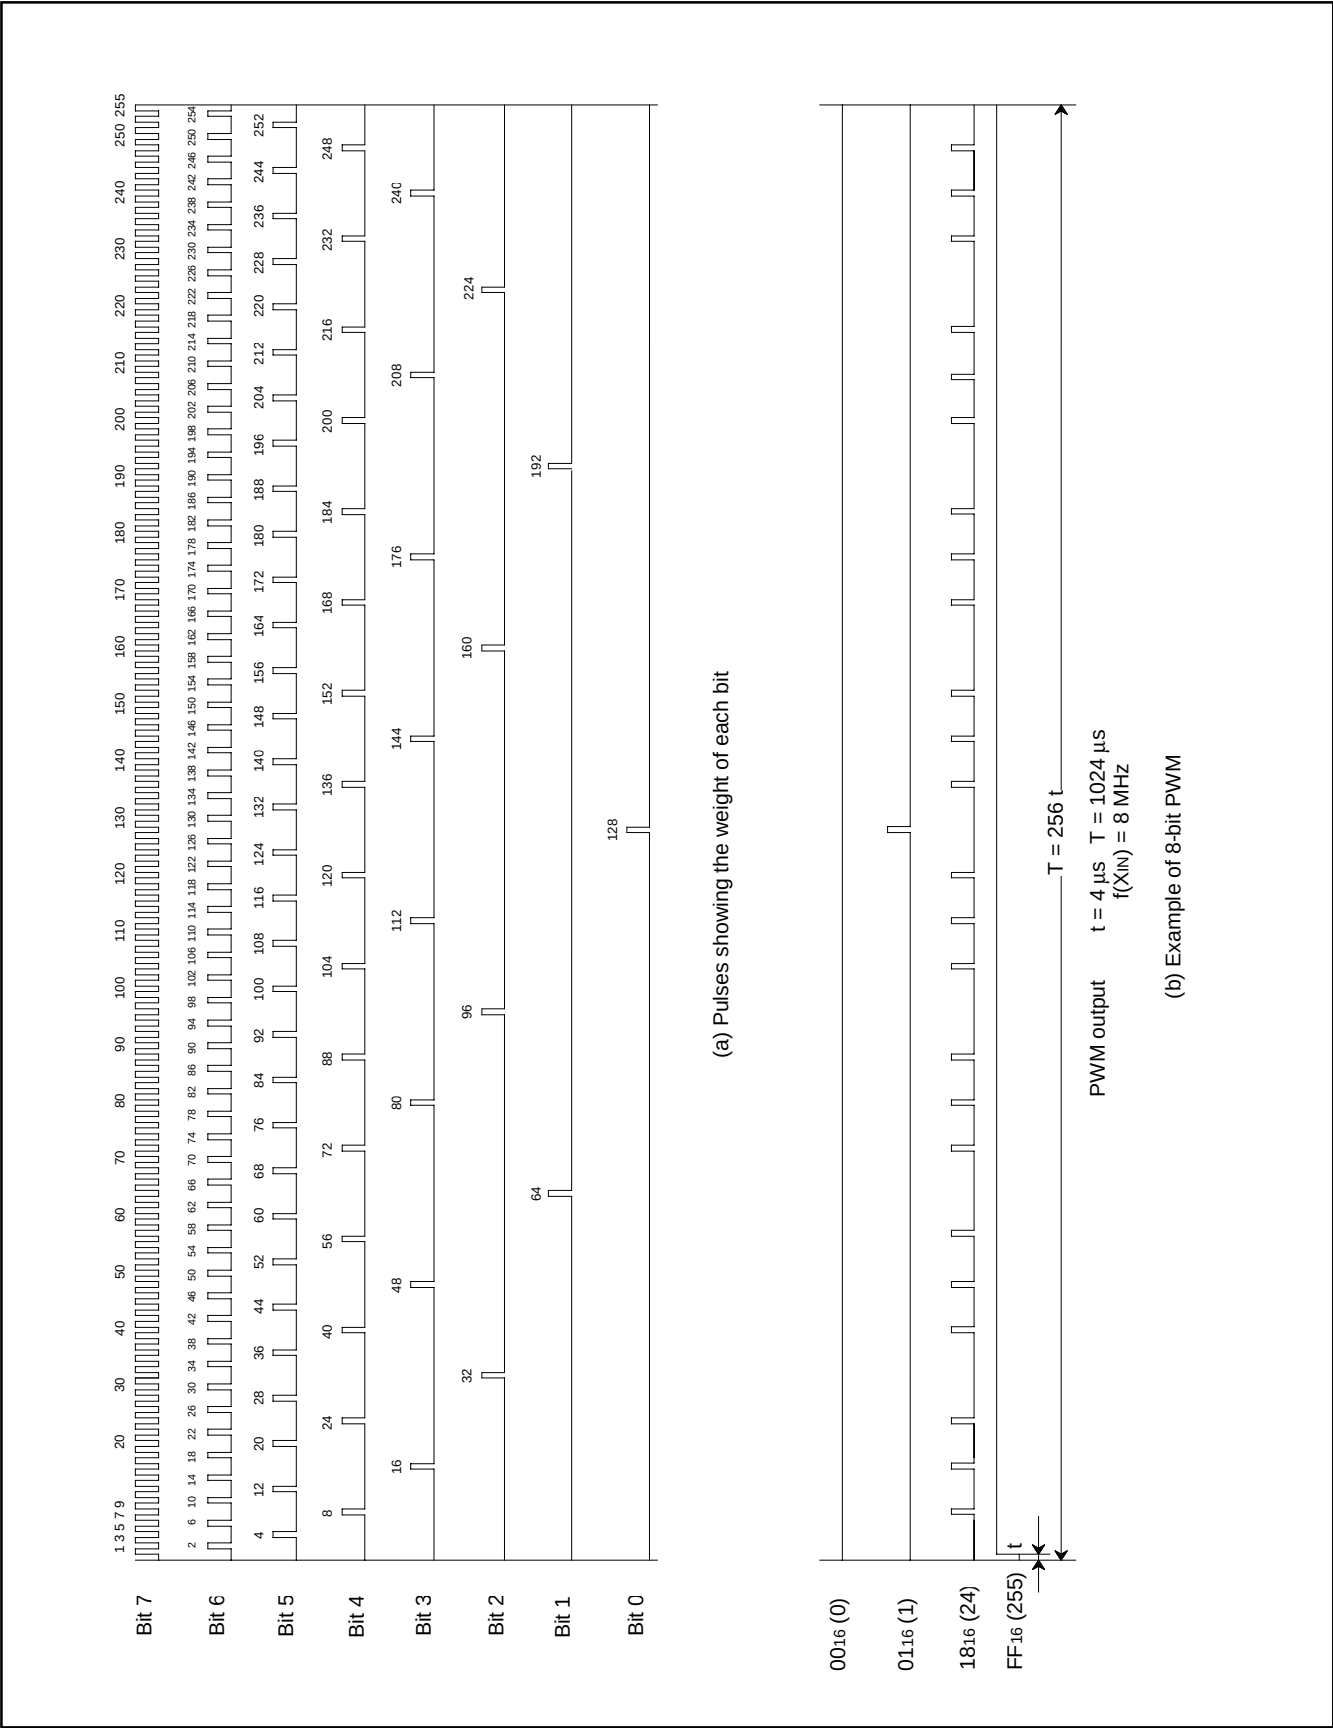

Fig. 8.7.2 PWM Timing
Figure 8.7.2 shows the 8-bit PWM timing. One cycle (T) is composed of $256 (2^8)$ segments. 8 kinds of pulses, relative to the weight of each bit (bits 0 to 7), are output inside the circuit during 1 cycle. Refer to Figure 8.7.2 (a). The 8-bit PWM outputs a waveform which is the logical sum (OR) of pulses corresponding to the contents of bits 0 to 7 of the 8-bit PWM register. Several examples are shown in Figure 8.7.2 (b). 256 kinds of output (HIGH area: 0/256 to 255/256) are selected by changing the contents of the PWM register. An entirely HIGH selection cannot be output, i.e. 256/256.